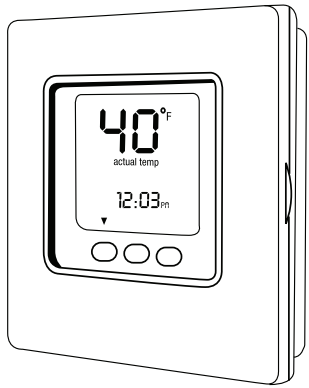

Fig. 6 - Lowest Temperature Setting
1. Set your room thermostat to the lowest temperature setting. See Fig. 6.